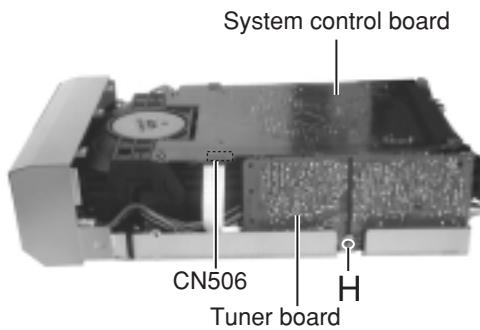

Fig. 11
■ Removing the tuner board (See Fig.11)